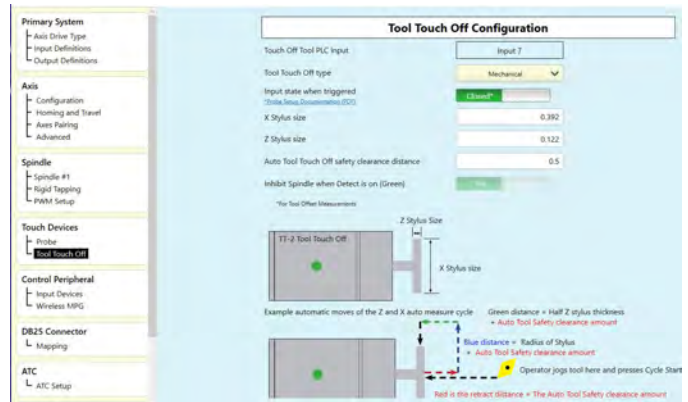

FIGURE 7
C. Click on “Tool Touch Off” and input your probe information. The picture below represents our probe dimensions (see Figure 7).